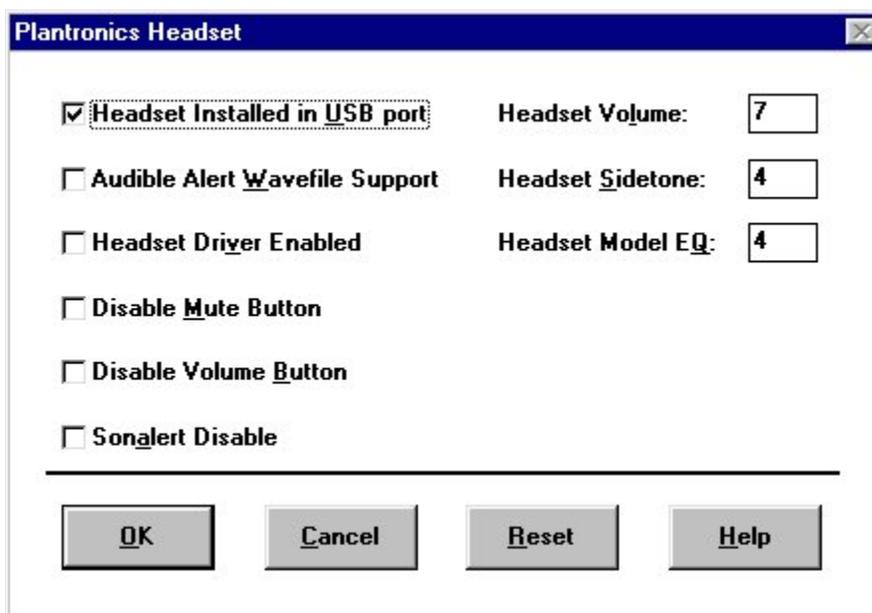

FIGURE 65. Example of the Audio Device dialog box for IP positions
1. In the configuration window, select the **Headset Installed in USB port** checkbox. The default will automatically check it. (See Figure 65.)